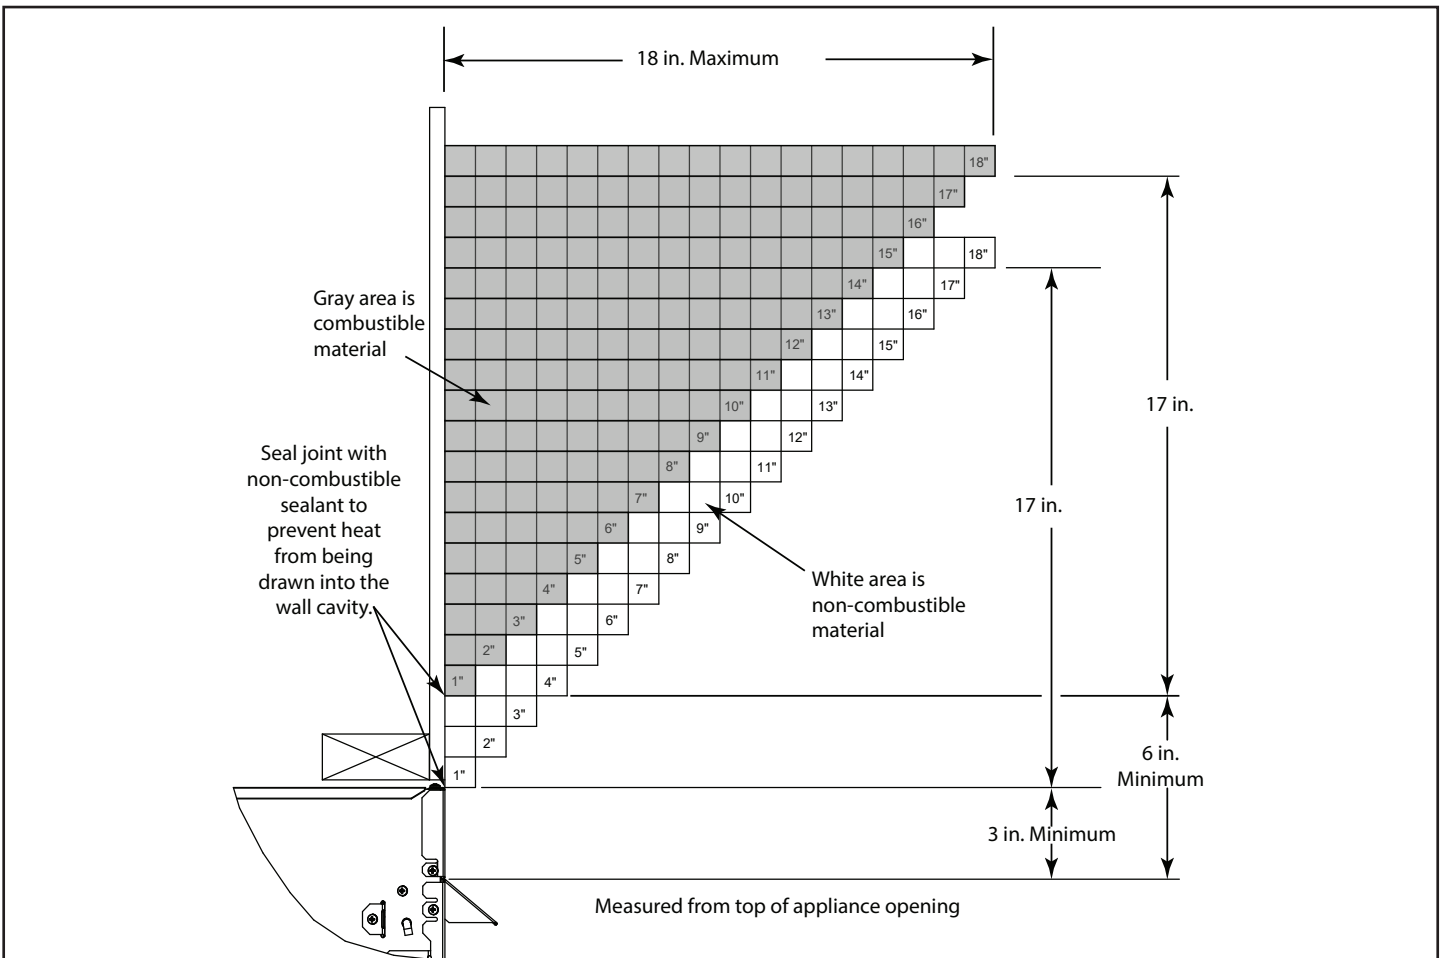

Figure 7.1 Minimum Vertical and Maximum Horizontal Dimensions of Combustible and Noncombustible
- See Figures 7.1, 7.2 and 7.3 for combustible and non-combustible finishing material thickness and clearance requirements.